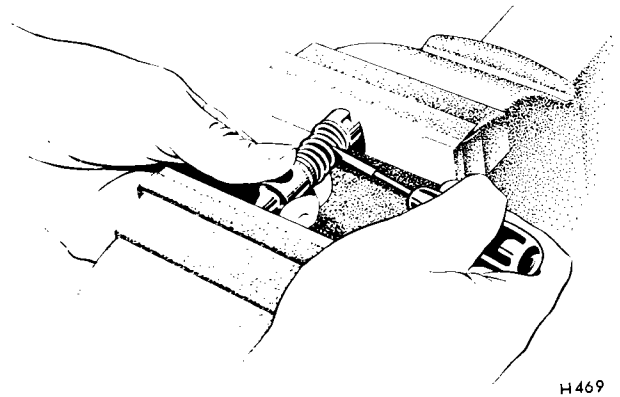

Fig. 29. Pressing the spring retainer back against the secondary plunger
3. Position the spring washer (21) on the valve stem so that it 'flares' away from the valve stem shoulder and follow with the valve spacer (20), legs first.
4. Attach the spring retainer (18) to the valve stem, keyhole first.
5. Slide the secondary spring (19) over the spring retainer, then position the sub-assembly on the secondary plunger (16).
6. The spring must now be compressed whilst the leaf of the spring retainer is pressed down behind the head of the plunger. To do this, position the sub-assembly between the jaws of a bench vice and, to prevent possible contamination, place a clean piece of paper between each end of the sub-assembly and the vice jaws (Fig. 29). Close the vice to compress the spring until it is almost coil bound. Use a small screwdriver to press the spring retainer right back against the secondary plunger (Fig. 29). Using a pair of pointed nose pliers (Fig. 30), depress the leaf of the spring retainer behind the head of the plunger. Ensure that the retainer leaf is straight and firmly located behind the plunger head as shown on Fig. 31 inset.
7. Fit the intermediate spring (19) into position between the primary and secondary plunger.
13. Fit the push rod (11) with the abutment plate (9) and circlip.